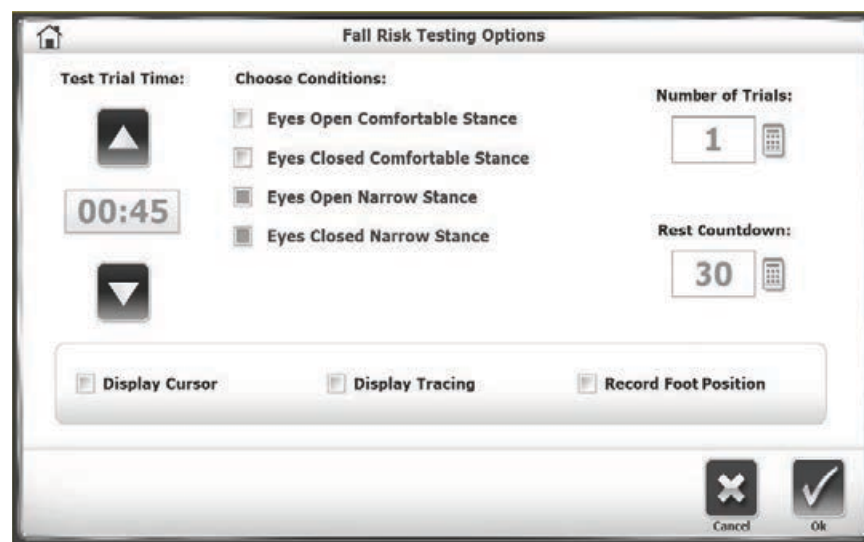

Figure 7.16. Fall Risk Testing Options screen.
5. For a valid comparison to normative data, the test must include the default conditions displayed in Figure 7.16 below, including Test Trial Time (45 seconds), Number of Trials (1), Rest Countdown (30 seconds), and the Display Cursor/Tracing and Record Foot Position options (disabled).